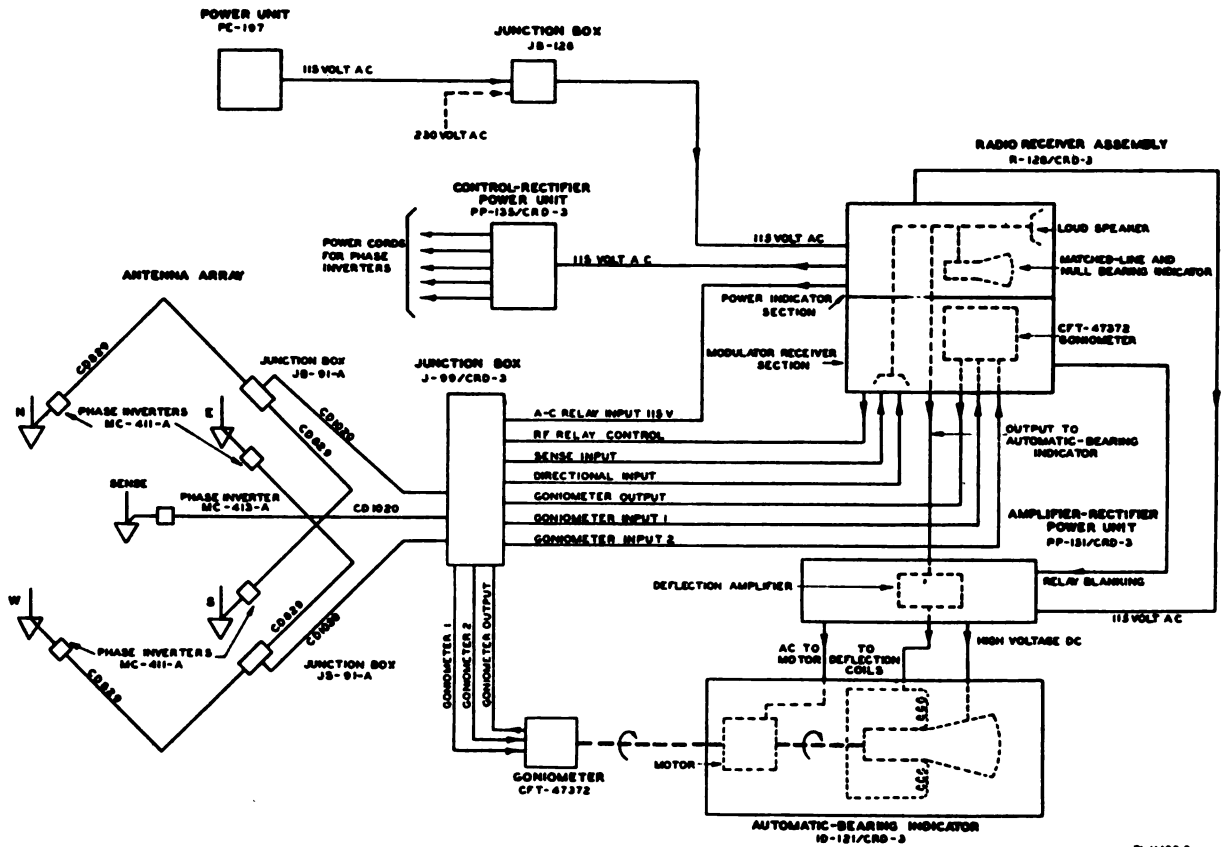

Figure 2. Block diagram of Radio Set AN/CRD-3.
(1) Matched-line indication on the face of a 2-inch cathode-ray tube through the use of a manually operated goniometer.
(2) Instantaneous propeller-shaped patterns on the face of a 5-inch cathode-ray tube through the use of a motor driven goniometer.
(3) Null method which can be observed aurally on the loudspeaker or visually on the 2-inch cathode-ray tube through the use of the manually operated goniometer.
C. Figure 2 is a simple block diagram showing the relationship between various components of the direction finder.
(1) The antenna array consists of five Antenna Assemblies AS-204/CRD-3. The antennas are approximately 64 feet high. Four of these are used for direction finding and are erected at the corners of a square whose diagonals measure 180 feet. The fifth antenna is erected in the center of the other four and functions as a sense antenna.
(2) Phase Inverters MC-441-A are installed at the base of each directional antenna. Phase Inverter MC-443-A is installed at the base of the sense antenna. The phase inverters act as coupling units between the antennas and transmission lines.
(3) Control-Rectifier Power Unit PP-135/CRD-3 provides the proper voltages for the operation of the phase inverters.
(4) Goniometers CFT-47372 combine the antenna outputs in proper relationship and feed them to the receiver input.
(5) Radio Receiver Assembly R-128/CRD-3 consists of two sections: the power indicator section, and the modulator section.